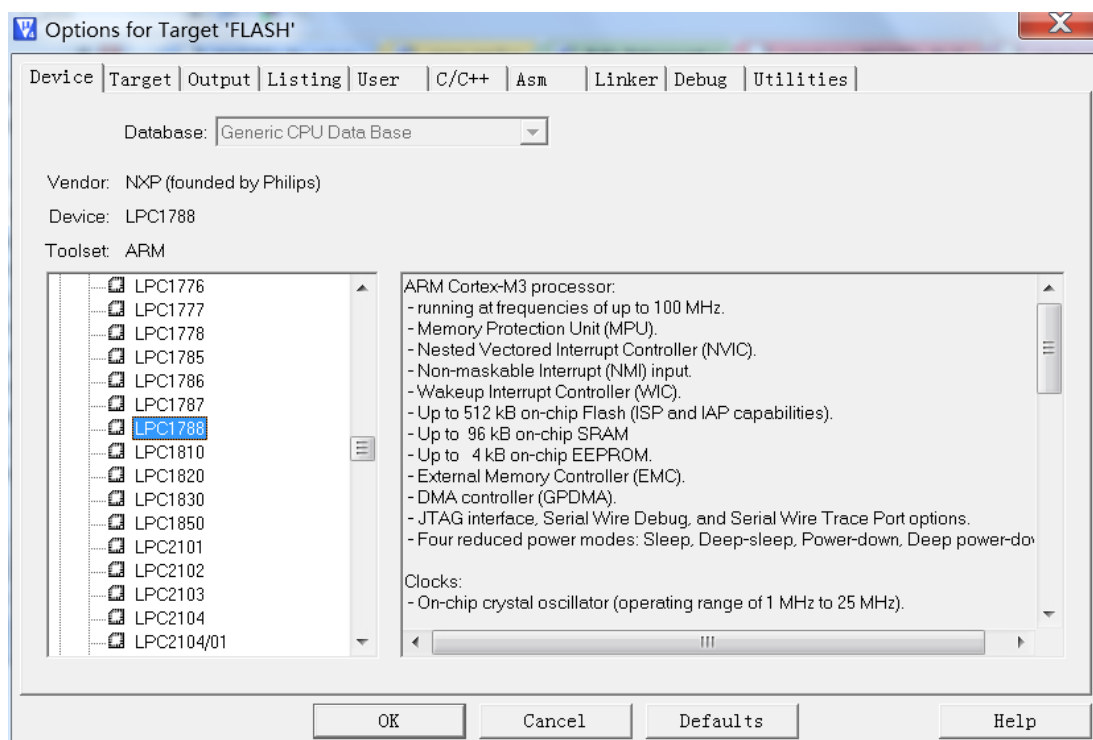

Figure 3-2
(2) Choose LPC1788 in Device. Refer to figure 3-2: